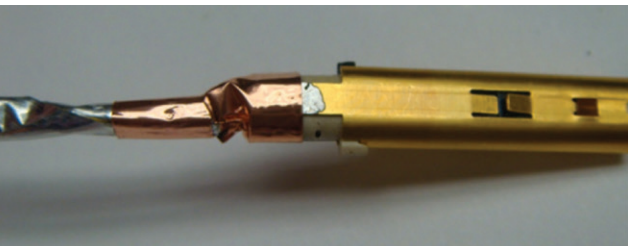

Figure 63: Taping the ears
23. Wrap copper tape around the ears of the outer body so that it touches the tape around the foil shield of the twisted pair (Figure 63).